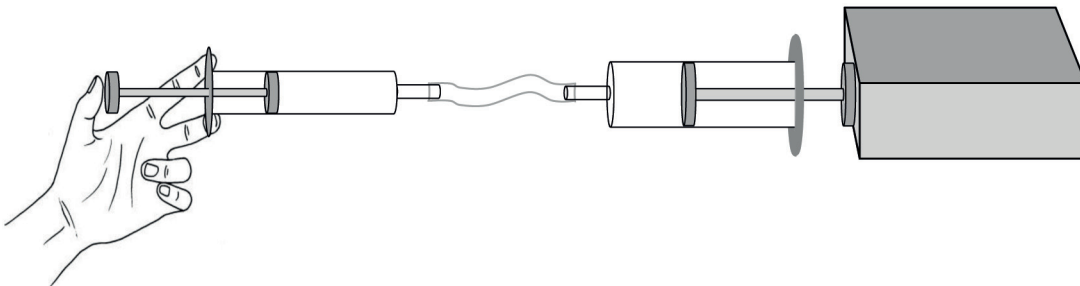

Figure 20
3. Suppose the two syringes and the tube in Figure 20 are filled with water. If the plunger on the left is pushed in 1 cm, will the plunger on the right move out by 1 cm or not? Explain your answer.